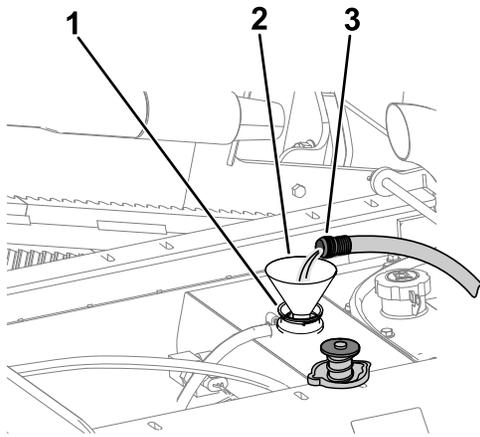

Figure 110
- B. Fill the radiator with clean water (Figure 110).